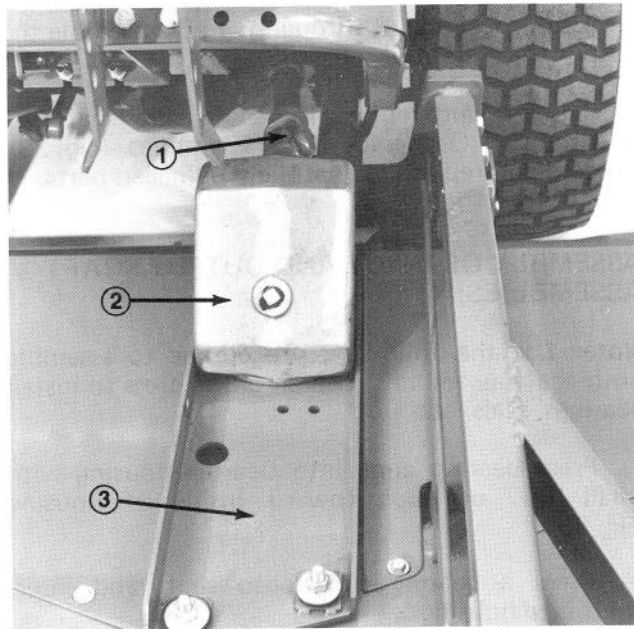

Figure 32
4. Remove four nuts securing gear box base to top of cutting unit (Fig. 32). Slide gear box and base forward until PTO shaft separates. Place gear box base assembly on workbench.
7. Slide PTO shaft into PTO tube. Loop belt around gear box pulley and mount gear box base on top of cutting unit with four carriage bolts, lock-washers and nuts (Fig. 32).